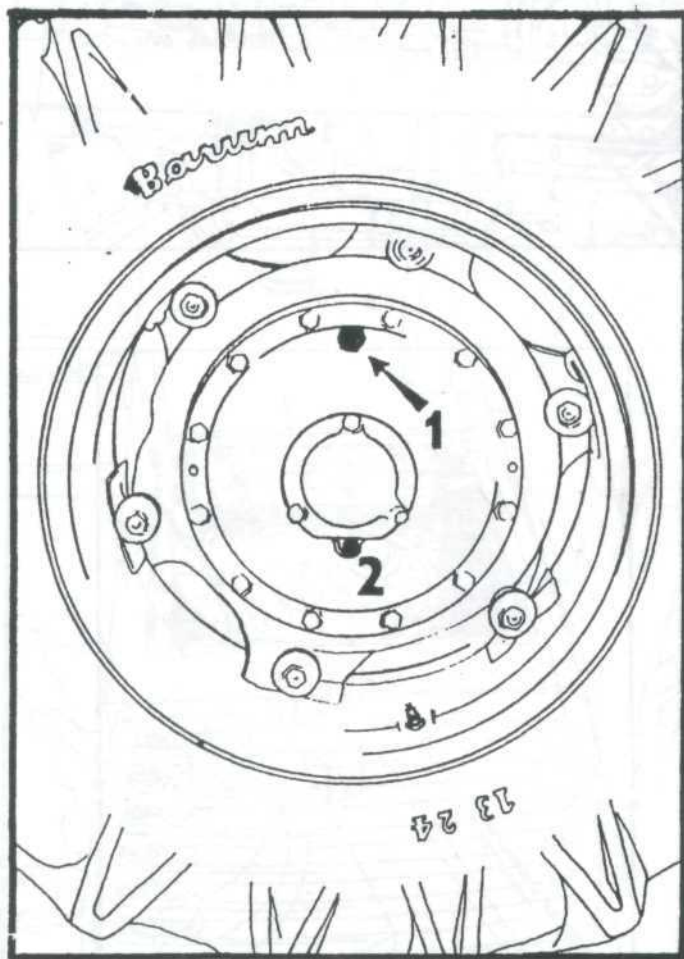

Fig. 15
- Front wheel reducer oil filling plug on Z 8045 and Z 12045 (Fig. 15/1)
- Front wheel reducer oil drain plug on Z 8045 and Z 12045 (Fig. 15/1); inspection plug (Fig. 15/2)